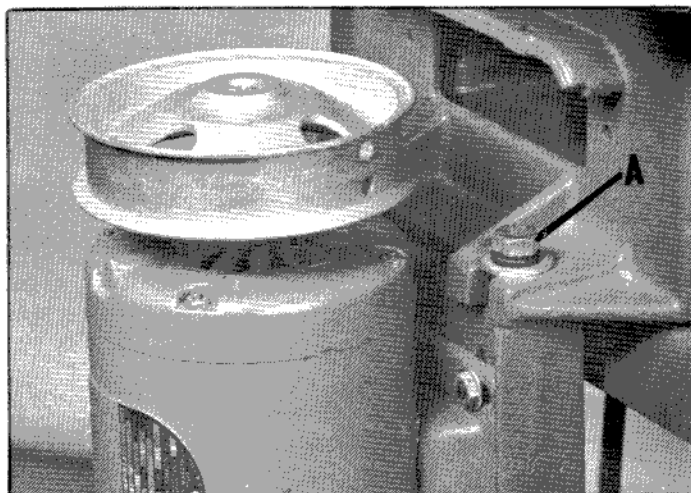

Fig. 8
1. Place motor and motor plate on rear of shaper, with cap screws (A) in slots of rear table support, as shown in Fig. 8, and tighten cap screws.
1. Place motor pulley on motor shaft as shown in Fig. 8, and tighten two set screws in the pulley against the key or flat of motor shaft. If pulley does not readily slip onto motor shaft, do not force it. Check the motor shaft and the hole in the pulley for any burrs or other obstructions which should be removed. If necessary, enlarge the hole in the pulley by using a round file or piece of sandpaper wrapped around a small dowel rod.